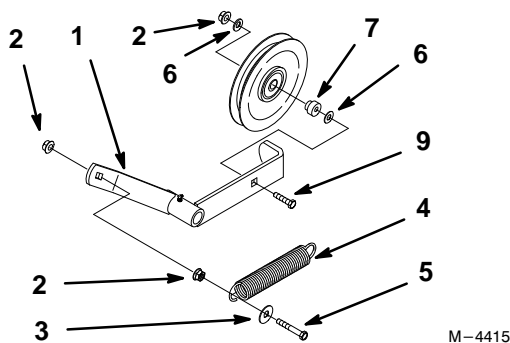

Figure 6
4. Remove the pulley, bushing, and hardware from idler arm (Old idler arm not shown) (Fig. 6).
1. Route new belt onto the rear idler pulley. Install pulley and belt to new rear idler arm using existing hardware (Fig. 6).
2. Install spring to rear idler arm. Use existing hardware and new flat washer included in kit. (Fig. 6).